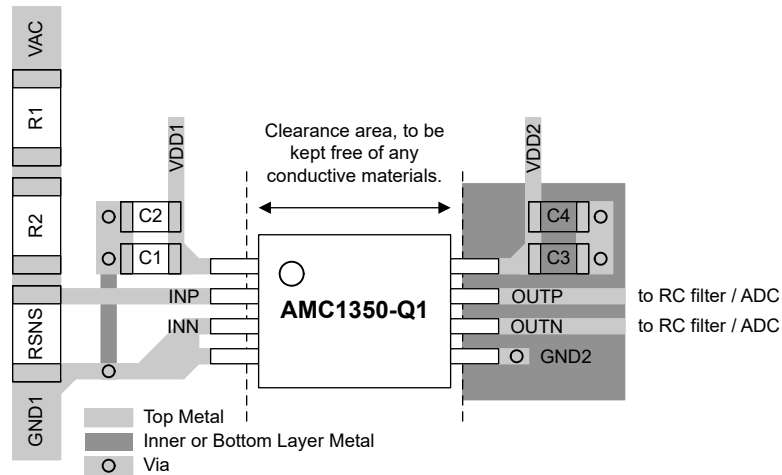

图 10-1. Recommended Layout of the AMC1350-Q1
Figure 10-1 shows a layout recommendation with the critical placement of the decoupling capacitors (as close as possible to the AMC1350-Q1 supply pins) and placement of the other components required by the device. For best performance, place the sense resistor close to the device input pin (IN).